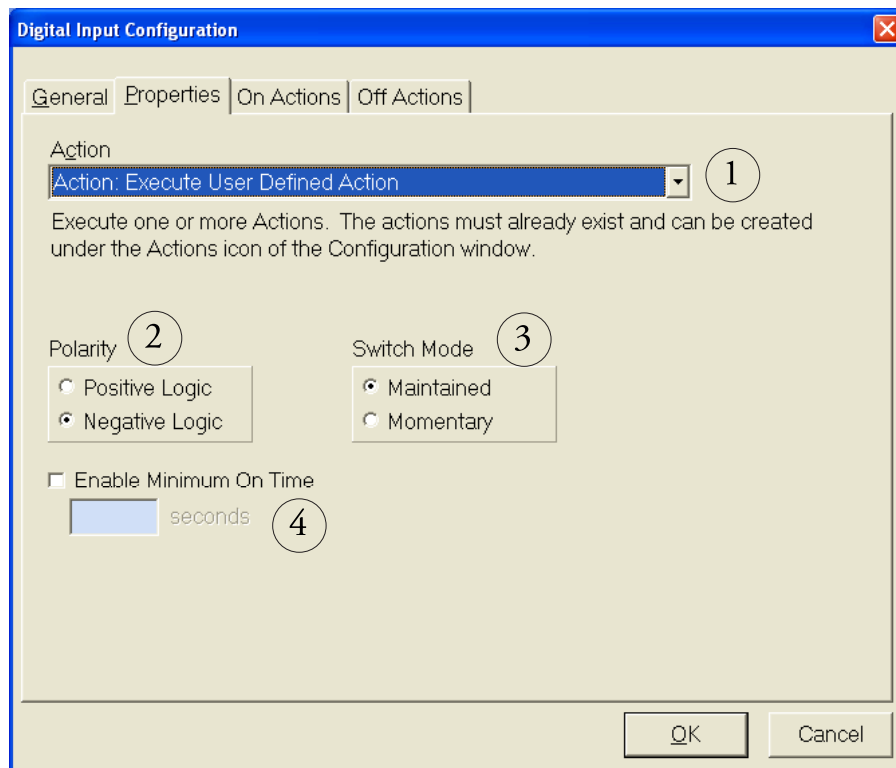

Figure 28. Digital Input Configuration panel—Action triggering setup.
The Digital Input Configuration panel has two tabs, General and Properties. Tabs for On Actions, Off Actions, and Set Digital Output will appear, depending on what you select in the Action section. Also, the Switch Mode Section (*Part 3 in Figure 28*) will appear depending on what you select in the Action section.
1. From the dropdown menu under Action, select the previously-defined action (*Part 1 in Figure 28*).
2. Polarity (*Part 2 in Figure 28*).
3. Switch Mode (*Part 3 in Figure 28*).
4. Determine how long your signal needs to be sustained before the signal is considered valid (Minimum On Time) (*Part 4 in Figure 28*).